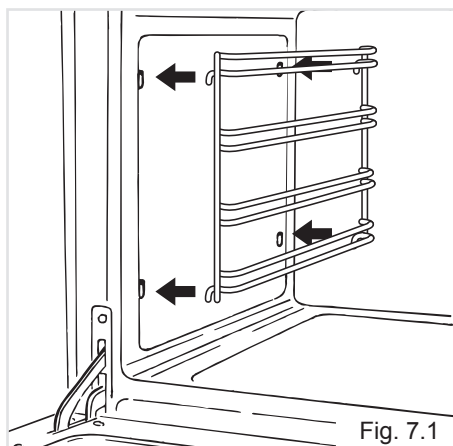

Fig. 7.1
- Fit the side runner frames into the holes on the side walls inside the oven (fig. 7.1).